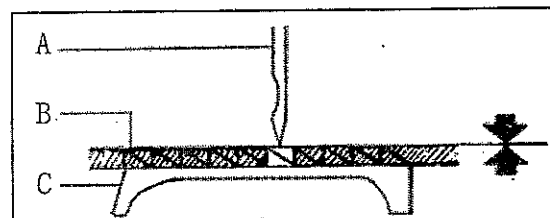

Fig.21
30、 Timing between needle and feed dog motion(Fig.21,22)
When needle point A reaches needle plate top surface B, feed dog surface C should be keep accordant on height (Fig.21) with needle plate top surface. It is the standard synchronous relationship. Adjustive method as below: